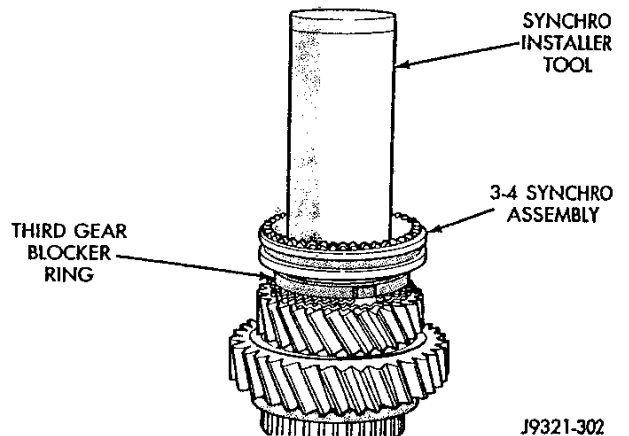

Fig. 40 Installing 3-4 Synchro Assembly
(8) Install 3-4 synchro assembly on output shaft (Fig. 40). Side of synchro hub with long shoulder goes to front of shaft and fits inside third gear. Use suitable size pipe style tool to tap or press synchro assembly into place.